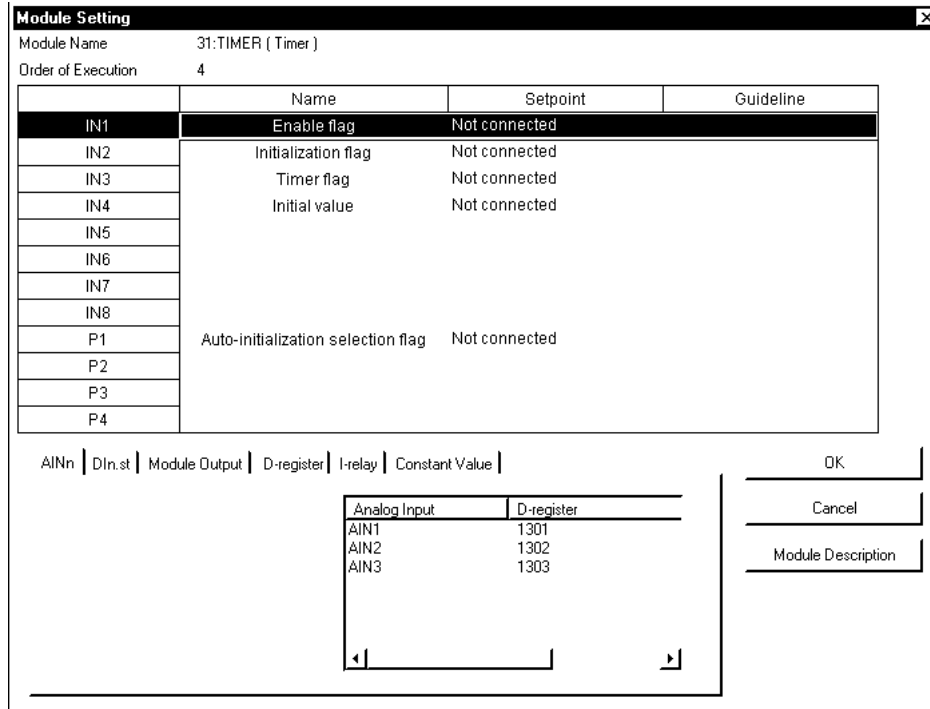

Figure 12.5.6 [Module Setting] Dialog Box
- ① Click the registered fourth-run TIMER module.
- ≠ From the tool menus, choose <Editing>, then <Connection>. The [Module Setting] dialog box (Figure 12.5.6) appears.